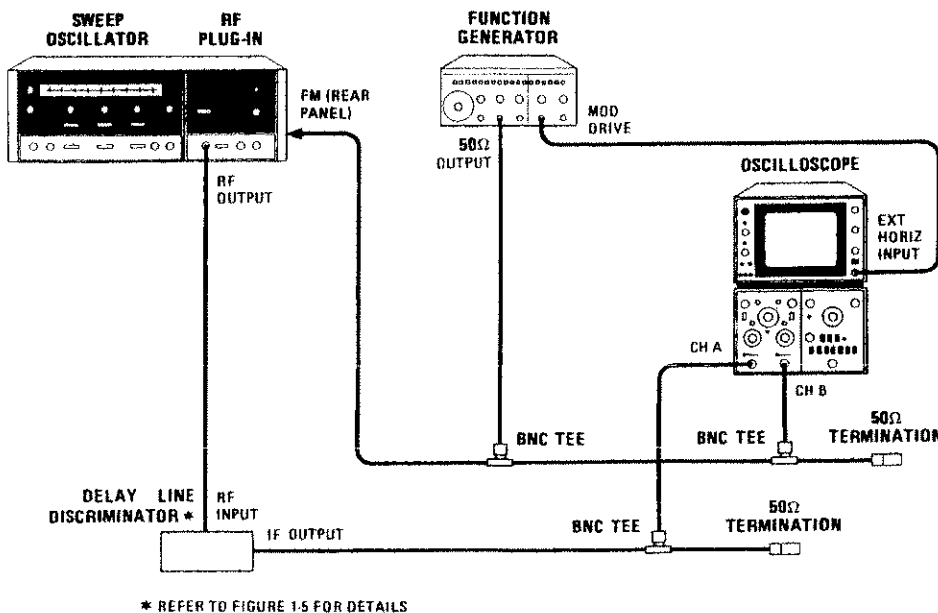

Figure 5-13. ALC Flatness Adjustment Test Setup
1. Connect equipment as shown in Figure 5-13 and place A1 FM Assembly on extender board.